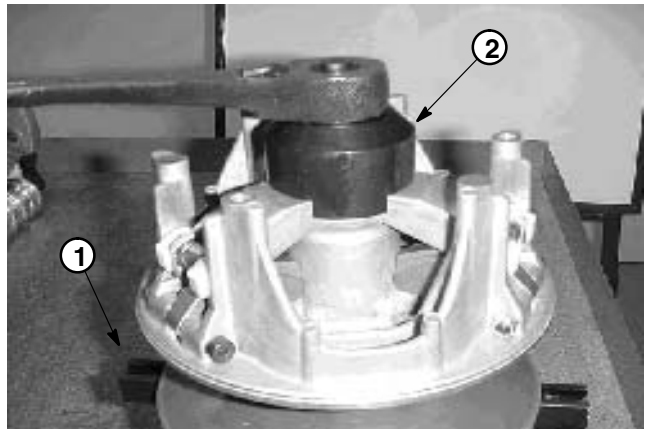

Figure 11
3. Use two 1/4–20 X 1” cap screws to secure the spider removal holding bar (TOR4098: see Special Tools) to drive clutch (Fig. 11).
6. Using spider removal spanner tool (TOR4098: see Special Tools), remove spider from the fixed sheave post (Fig. 11).